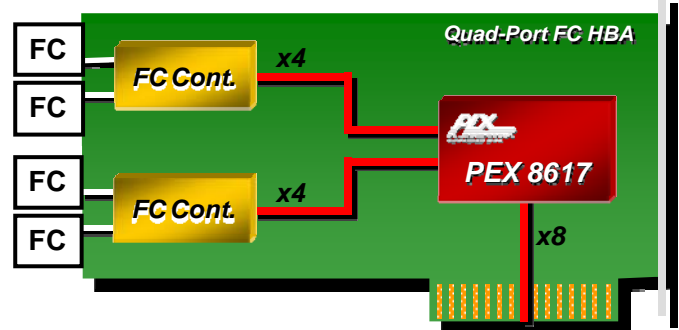

Figure 5. Quad-Port Fibre-Channel HBA
The PEX 8617 is well suited for Host Bus Adapter cards (HBAs) as well. Figure 5 shows a Quad-Port Fibre Channel HBAs utilizing the PEX 8617 to allow connectivity to two Fibre Channel (FC) controllers. The PEX 8617 uses a x8 link on the upstream port and two x4 downstream links to fan-out to the FC Controllers. Each FC controller supports two FC ports.